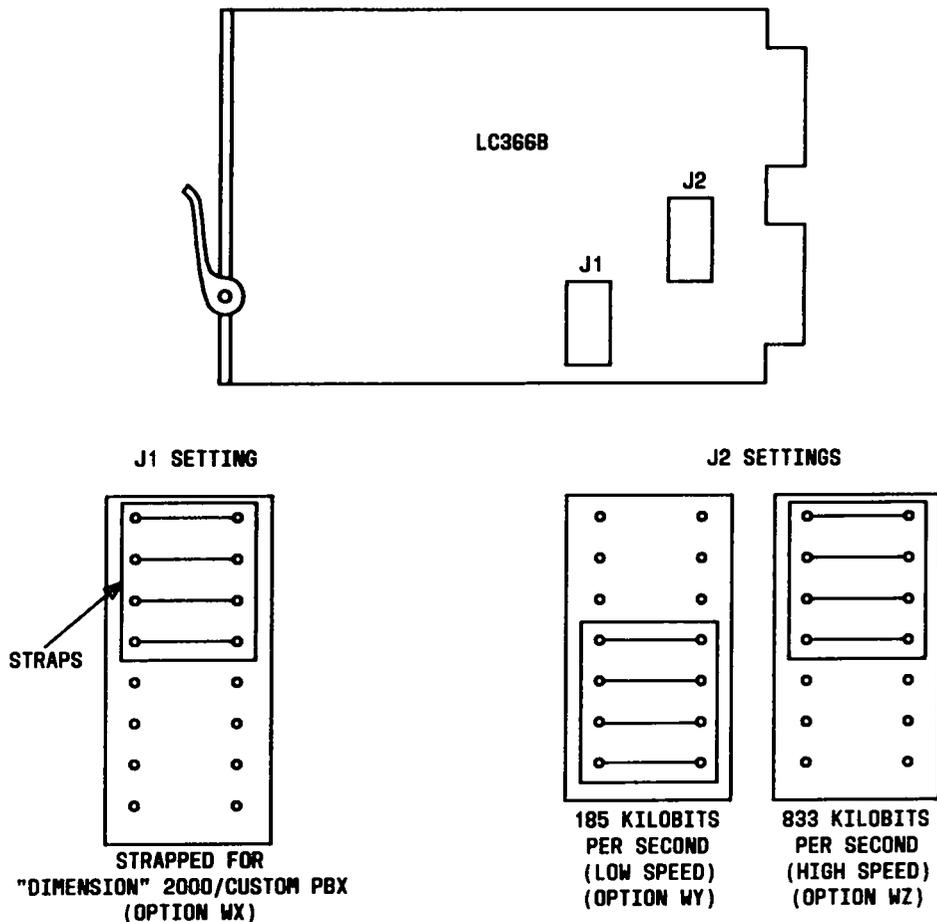

Fig. 5—LC366B Circuit Pack
**3.02** Each PIC connects to the PBX via an LC34B or an LC366B data channel. When connected to a PIC system, the two LC34B channels (Fig. 4) and the first LC366B channel (circuit 0) (Fig. 5) must be wired for the low-speed option. The remaining three LC366B channels (circuits 1, 2, and 3) are fixed at low speed.